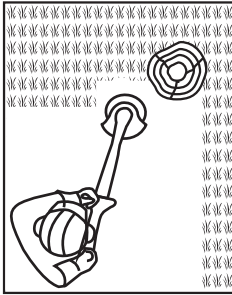

Fig. 21
4. Pull the plant protector (13) out to avoid bringing the cutting device into contact with hard objects such as walls and kerbstones (Figs. 21, 22).